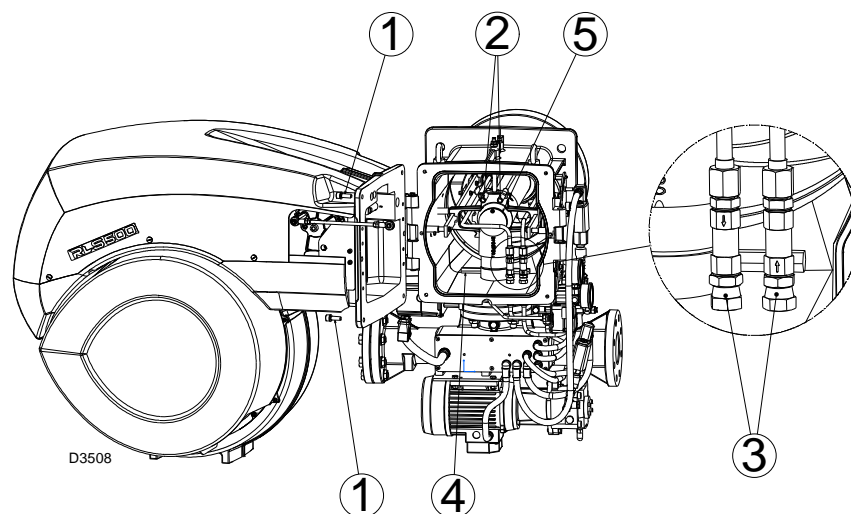

Fig. 13
RLS 300 - 400 - 500/EV model (Fig. 13)
- open burner at hinge (Fig. 13) after removing the 4 screws 1);